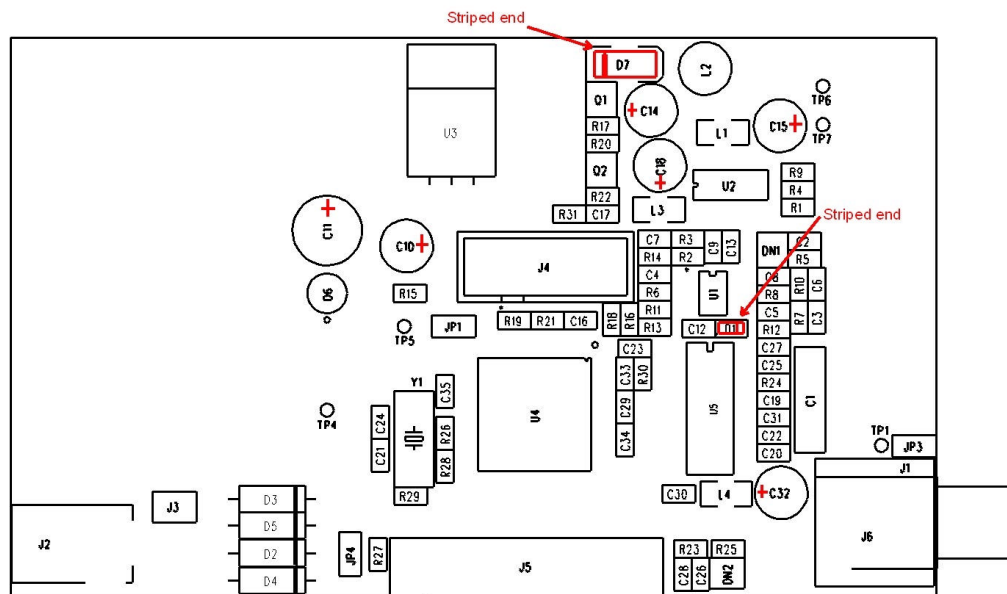

Fig. 1
- 1) The polarity of D1 and D7 (shown in Fig. 1 below). If D7 is placed wrong Q1 would be easily get burnt.